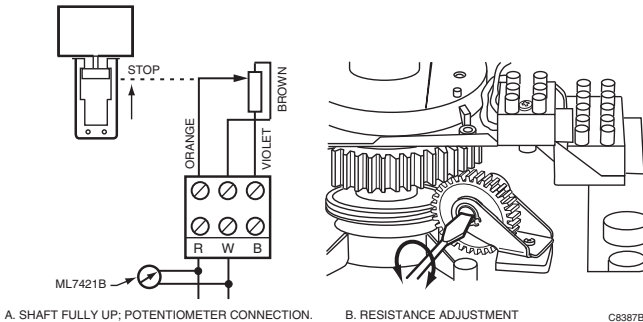

Fig. 7. Drive actuator shaft fully up and adjust resistance to 20.5 ohms.
8. For 1-1/2 in. stroke actuators, drive the actuator shaft fully up and measure the resistance across terminals R and W as shown. Adjust this resistance to 20.5 ohms. See Fig. 7.
Route field wiring in through the conduit opening in the bottom of the actuator, connect to the potentiometer terminal block as shown in Fig. 7 and according to the job drawings, and replace the actuator cover.